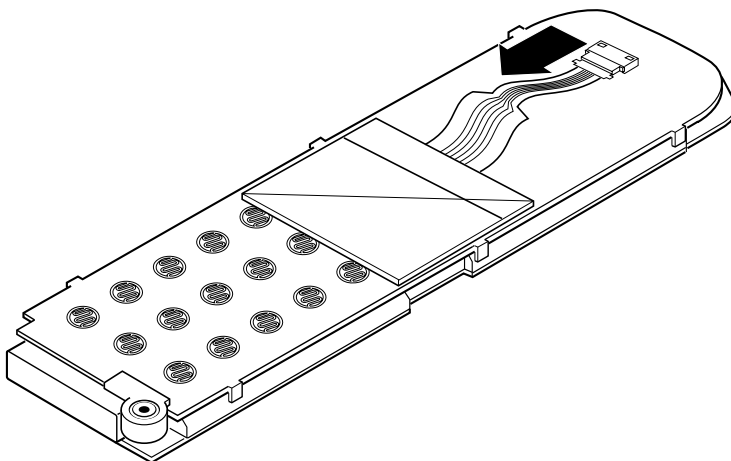

Figure 14: LCD disassembly (2)
14. (Figure 14) Disconnect the LCD from the logic PCB.